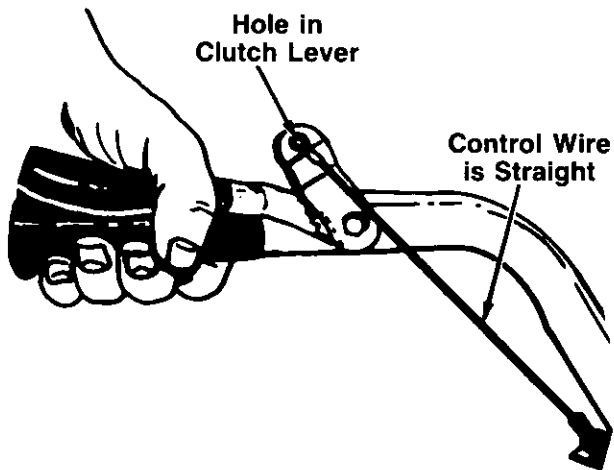

FIGURE 16.
19. Hook the "Z" end of clutch cable wire into clutch lever. See figure 16.
With the clutch lever released (in the "up" position), adjust the bottom nut at the cable bracket so there is only a slight amount of slack in the control wire. Tighten the upper nut against the bracket. Squeeze the clutch lever against the handle. The control wire should now be straight. See figure 16.